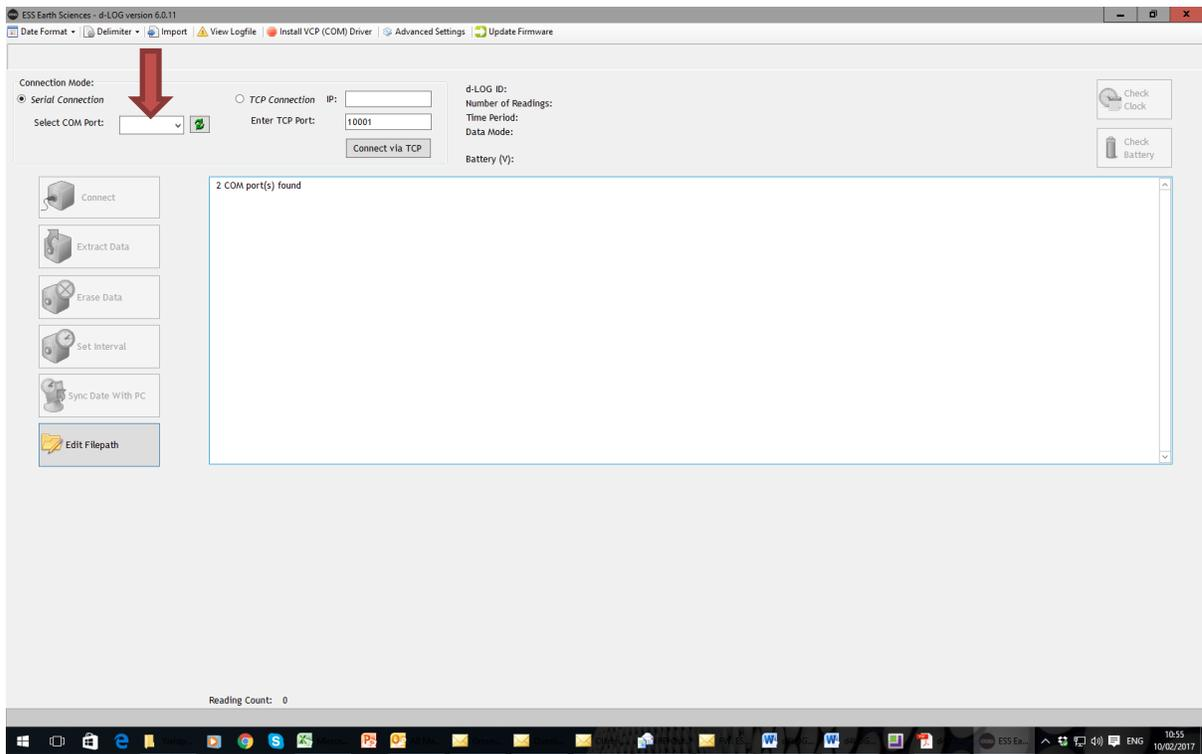

Figure 4: 2 Step COM Port determination for the USB Download cable. In this case the cable is assigned to COM67
- (i) Unplug the USB download cable and click on the green refresh arrows (Figure 4 STEP1). Use the Open COM Port pull-down list to determine pre-existing COM Ports.